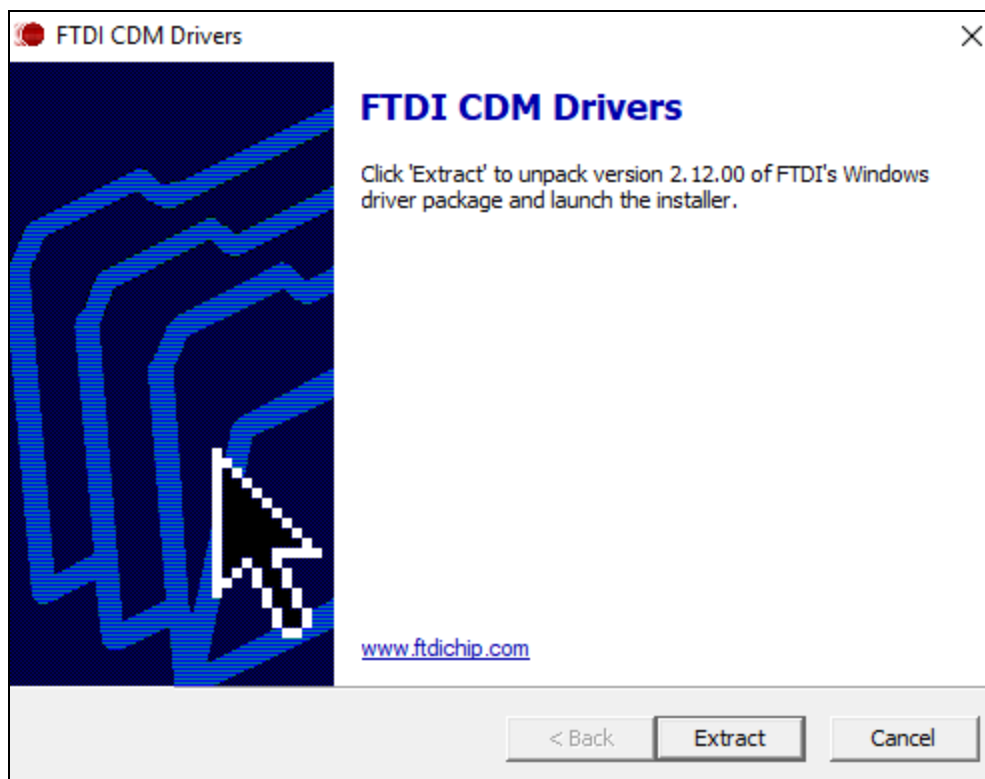

Fig. 3-3: Extracting USB drivers.
2. Select "Extract" shown Fig. 3-3: , and the drivers will be installed.